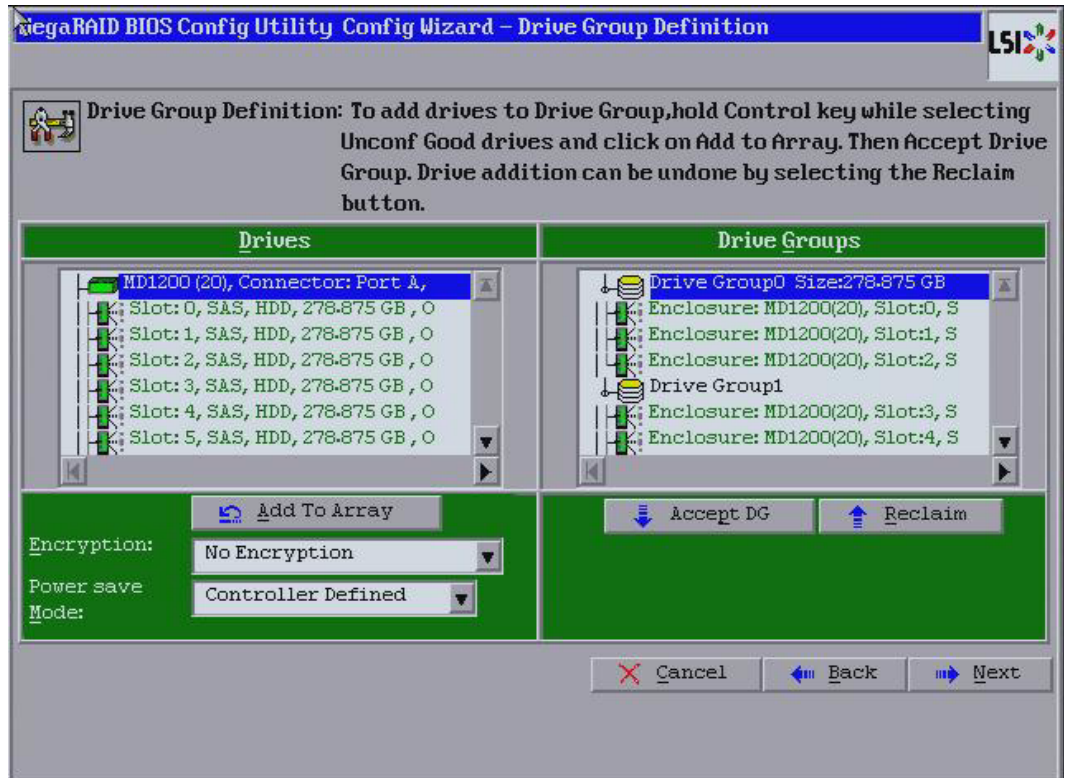

Figure 52: Drive Group Definition Dialog
6. Click **Add To Array** to move the drives to a proposed drive group configuration in the **Drive Groups** panel on the right, as shown in Figure 52.